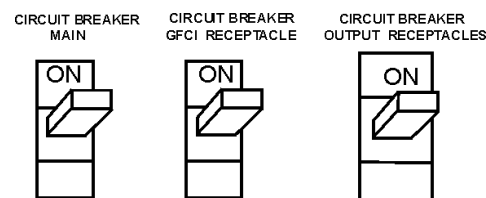

Figure 29. Main and GFCI Circuit Breakers
17. Turn the MAIN, GFCI and LOAD circuit breakers to their ON position (Figure 29).